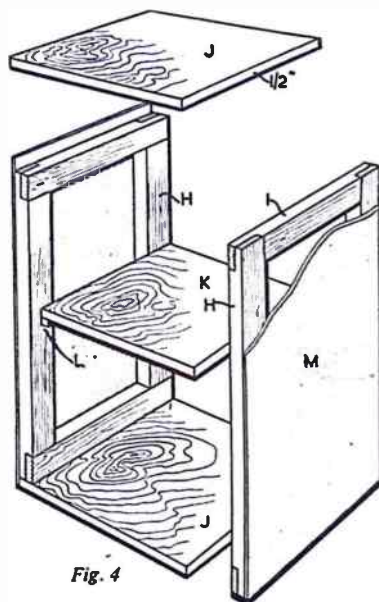

Fig. 4
Next the cabinet as indicated in Fig. 4. Two frames measuring 20 ins. by 15 ins. are made up from 1 in. by 1 1/2 in. material halved together. The shelves (J) and (K) are cut from 1/2 in. plywood. Shelves (J) are nailed to the frames and the middle shelf (K) is supported by pieces of 3/4 in. square stripwood (L). Hardboard is cut to size and pinned in place to cover the frames (M).